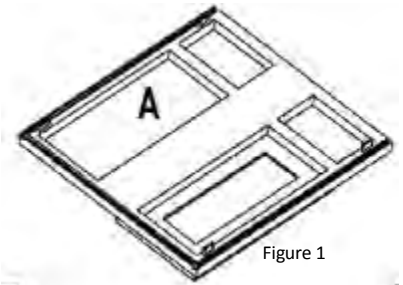

Figure 1
**1.** Place the face frame (A) face down on a flat soft working surface to ensure that the face is not scratched or damaged (Figure 1).